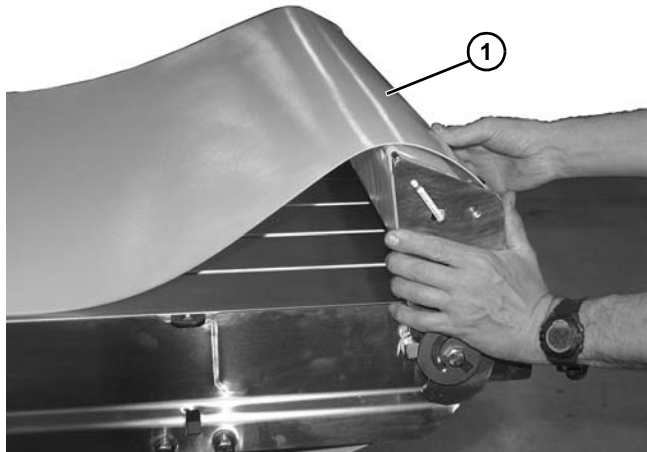

Figure 167
1. Tip up tail (Figure 167, item 1).